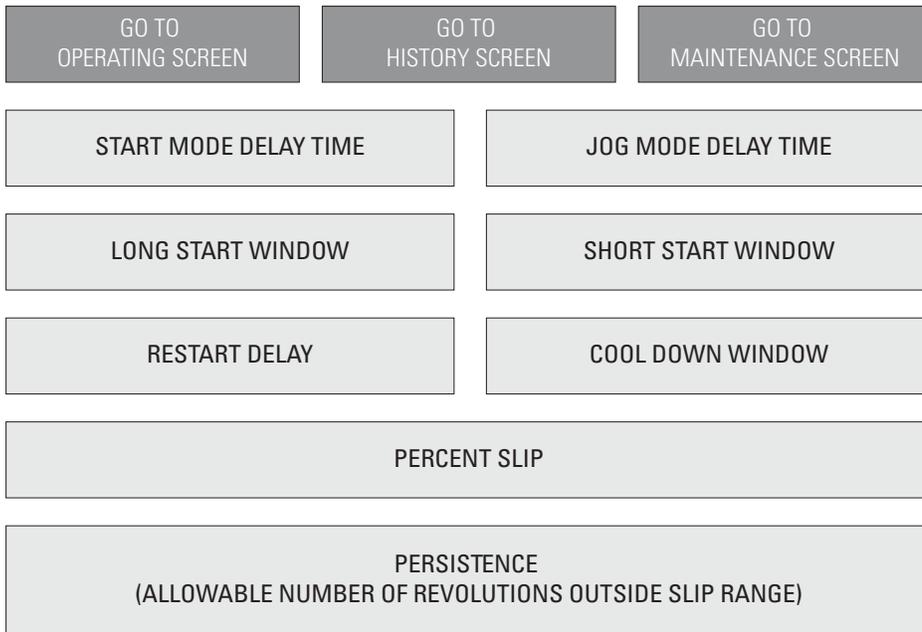
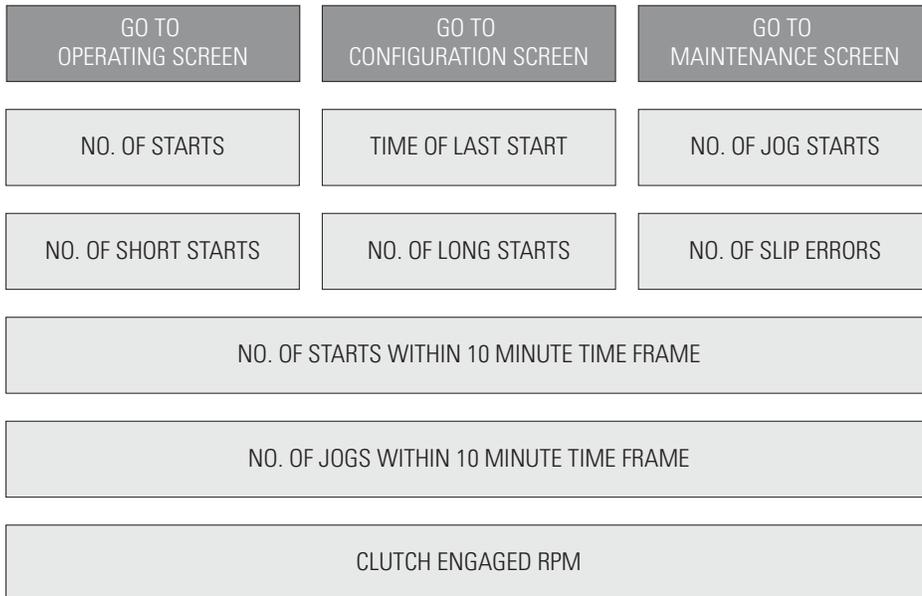

**Figure 4**
**Figure 5**
Refer to Figure 4 for references to the panel door, refer to Figures 5 through 8 for references to the HMI screens.
**5.1.1** All indicating lights for normal operation are on the operating screen of the HMI. Refer to Figure 5.